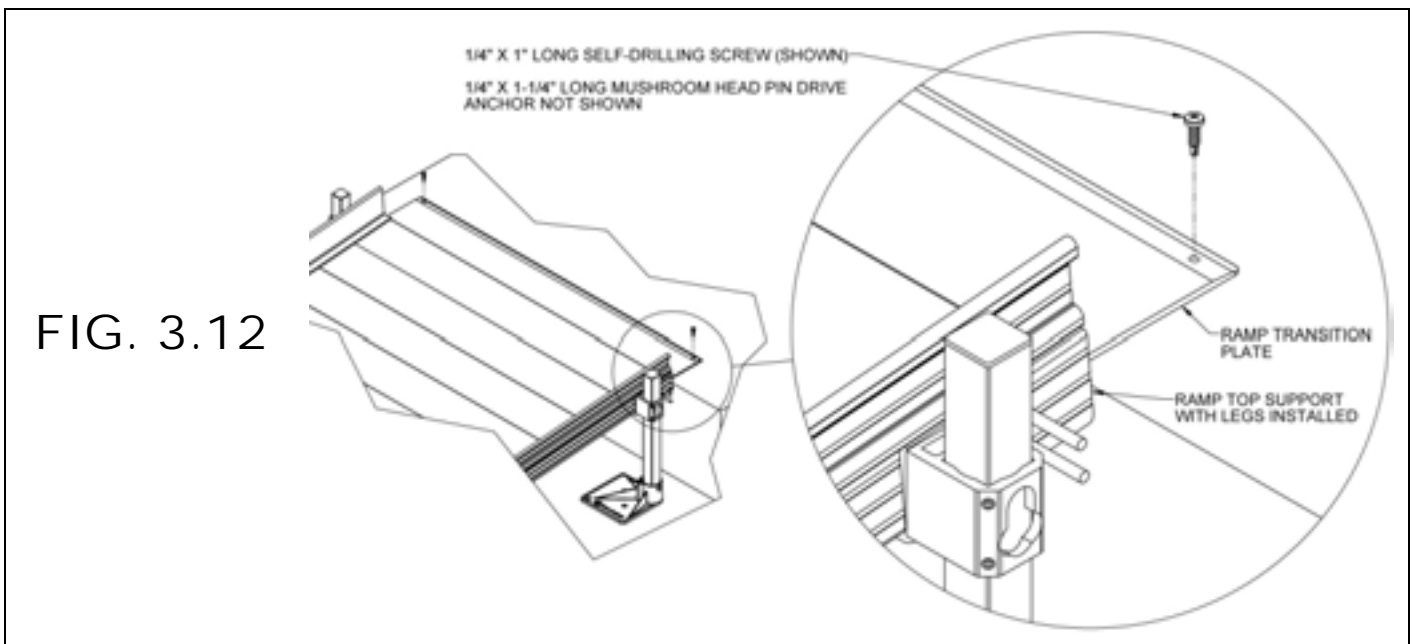

FIG. 3.12
- 3.6.1.1. Secure transition plate by installing the provided 1/4" x 1" long self-drilling screws through each hole (FIG. 3.12).
- 3.7.2. Make sure the transition plate overlaps the surface of the platform, porch or deck, as much as possible, but never less than 1", regardless of the angle required (FIG. 3.12).